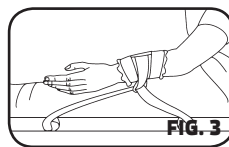

FIG. 3
- a. Triangulation process; to restrict patient's range of motion: Separate the straps and attach at different points along a movable part of the bed frame, out of the patient's reach, using quick-release ties (fig. 3).